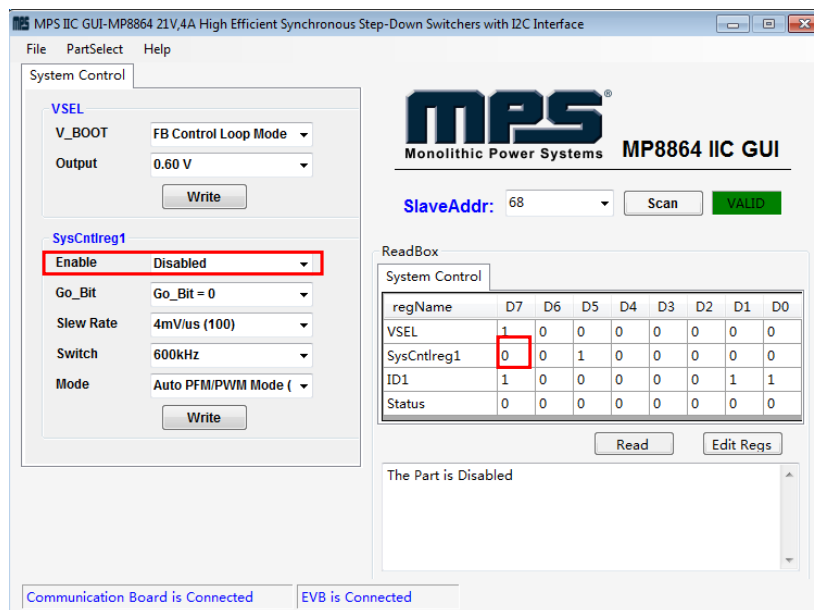

Figure 10: Refer to Datasheet to Translate 0’s and 1’s
5. Click the “**Read**” button to update values. The changed information of the item will appear on the right side (see Figure 10).